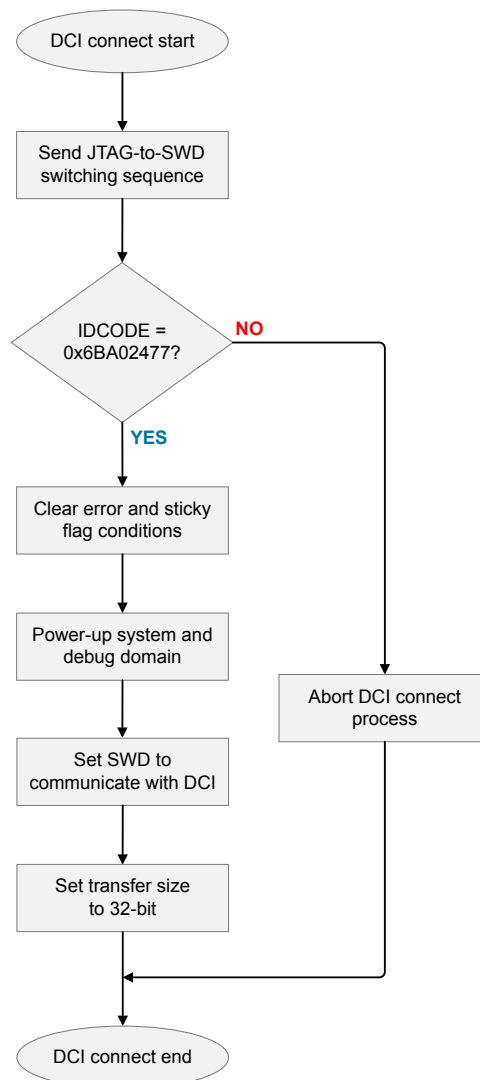

Figure 3.1. DCI Connection Flowchart
1. Connect to DCI according to Figure 3.1 DCI Connection Flowchart on page 4